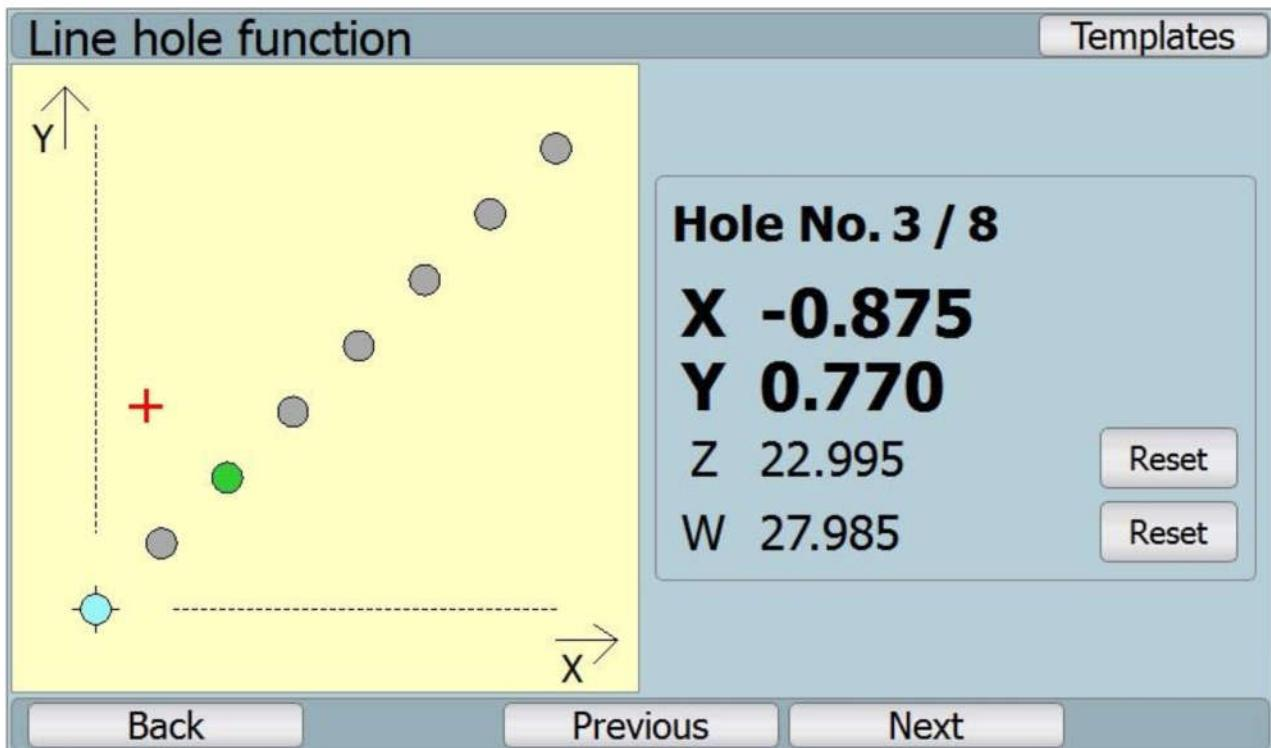
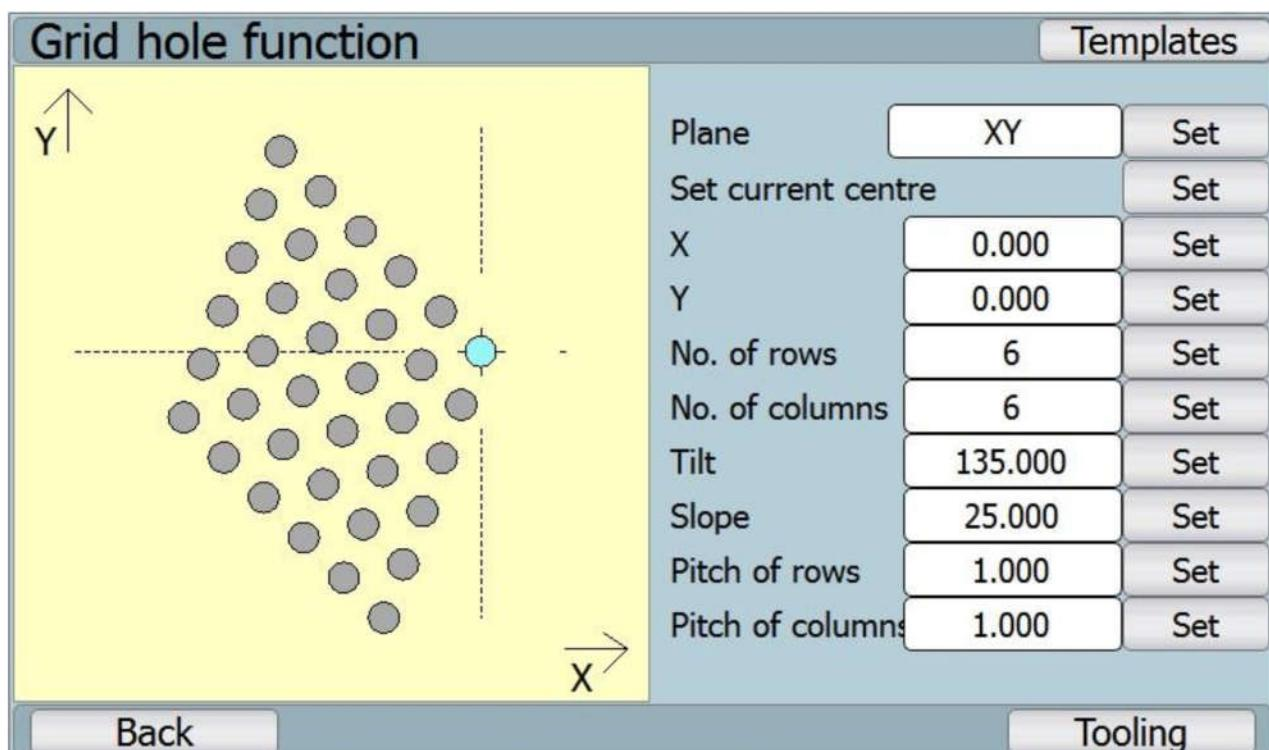

Fig. 18: Hole drilling on line – edit one point from the scene
Fig. 22: Drilling holes on the nut
- ⑩ It is used for drilling holes on the line.
- ⑩ At first, select the plane where individual holes shall be drilled.
- ⑩ Set the centre coordinates for drilling. It is possible to set any coordinates or the actual coordinates using button „Nastavit aktuální střed“ (set actual centre) (see fig. 18: Hole drilling on line – edit one point from the scene).
- ⑩ Select the number of holes for drilling
- ⑩ Set the spacing of the holes and their turning.
- ⑩ Automatically re-draws the scene with the display how the task shall look like.
- ⑩ Every entered hole can be edited independently – shift in defined plane axes, set the distance from the centre or the turning angle. This option is achieved by marking the hole in the scene (finger or stylus). Marked hole is green (see fig. 18: Hole drilling on line – edit one point from the scene).
- ⑩ **Caution** during every change of the setting the scene is re-drawn. If for example one hole is shifted to other than defined entry (manually, see point) and than the setting changes, it is automatically re-drawn!
- ⑩ The hole can be deleted from the scene using button „Odstranit“ (delete).
- ⑩ After returning to the initial setting, it is possible to use button „Zpět“ (back) on the right or mark a location where no hole is drawn in the scene.
- ⑩ As soon as all parts are entered, press button „Obrabeni“ (machining) to get back to the machining mode where individual holes can be drilled.
- ⑩ Select the number of required holes, circle diameter, initial and final angle.
- ⑩ It is used for drilling holes on the nut.
- ⑩ At first, select the plane for drilling
- ⑩ Set the centre coordinates for drilling. It is possible to set any coordinates or the actual coordinates using button „Nastavit aktuální střed“ (set actual centre) (see fig. 22: Drilling holes on the nut).
- ⑩ Select the number of required holes, number of lines and nut columns, turning, bevelling, spacing of lines and columns.